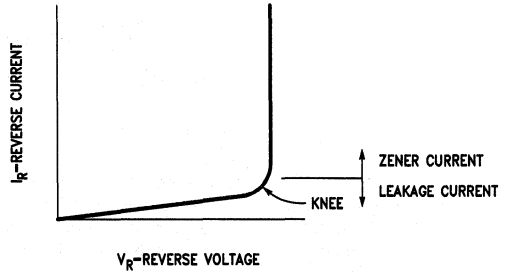

FIGURE 2
**IZ Zener Current:** The reverse current which flows in a zener diode at a point beyond the knee in the reverse characteristic. See *Figure 2*.
**$V_Z$  Zener Voltage:** The reverse voltage across a zener diode at a point where zener current is flowing. See *Figure 2*.
**$Z_{zk}$  Zener Knee Impedance:** Zener impedance measured at a defined point on the "knee" of the zener characteristic (See *Figure 2*).